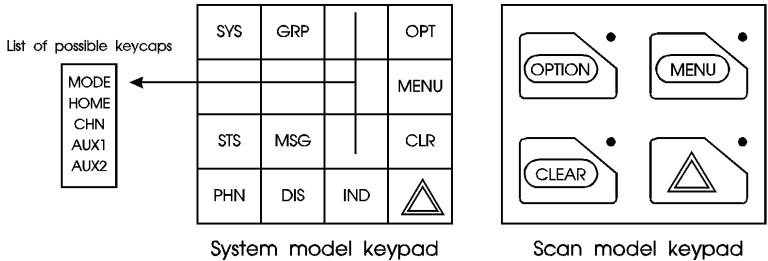

Figure 5 - Standard JAGUAR 725M Keycaps Configuration
The Standard keypad package for the System radio includes five (5) labeled keycaps (MODE, HOME, CHN, AUX1 and AUX2) and six (6) blank keycaps, which can be placed on any of the five key locations (numbers 3-6 and 9) shown in Figure 5. The keypad represents the primary function programmed for that key location. See the **Key Descriptions** section for a description of the primary function associated with these five (5) keycaps.